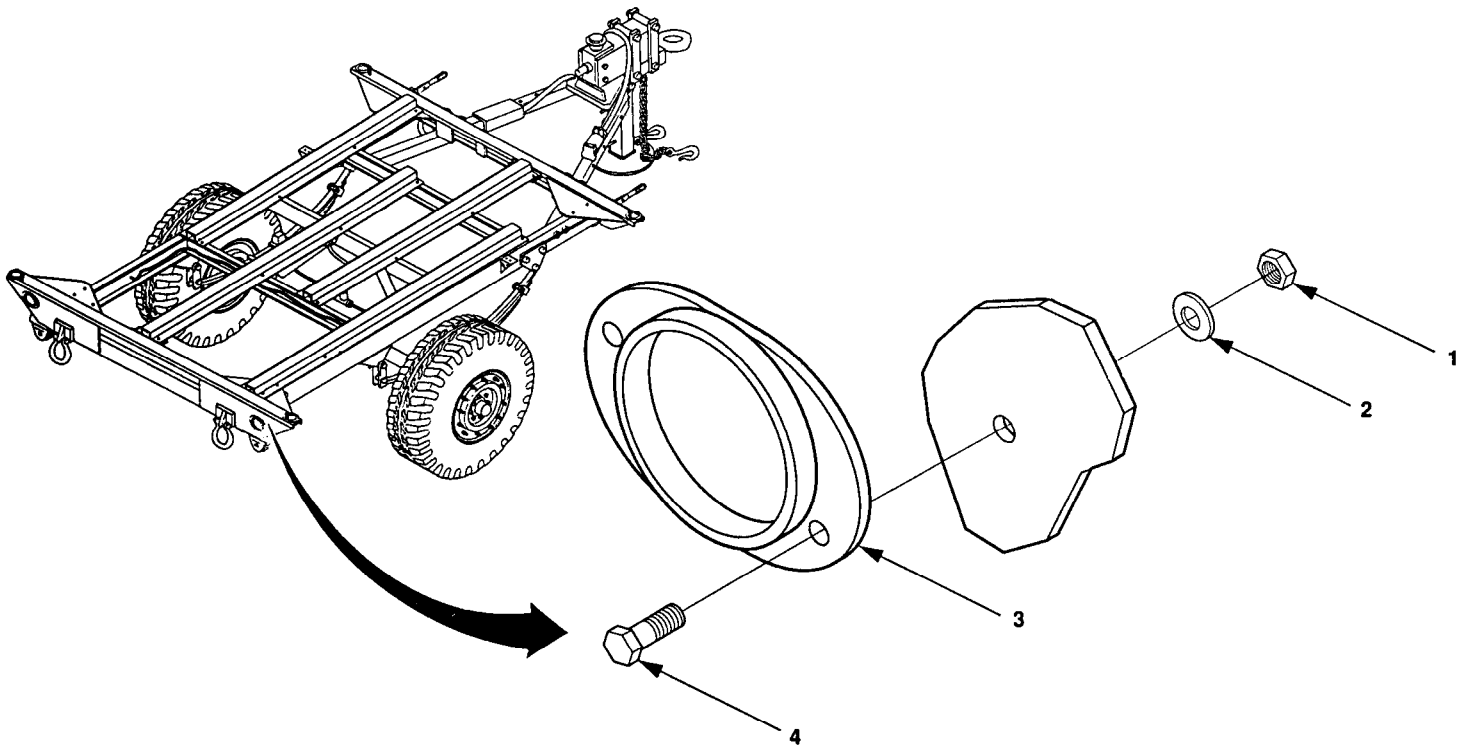

Figure 4-25 Reflector Replacement, 1 Ton Trailer
Remove two self-locking nuts (1, figure 4-25), flat washers (2), and screws (4), and remove reflector (3).